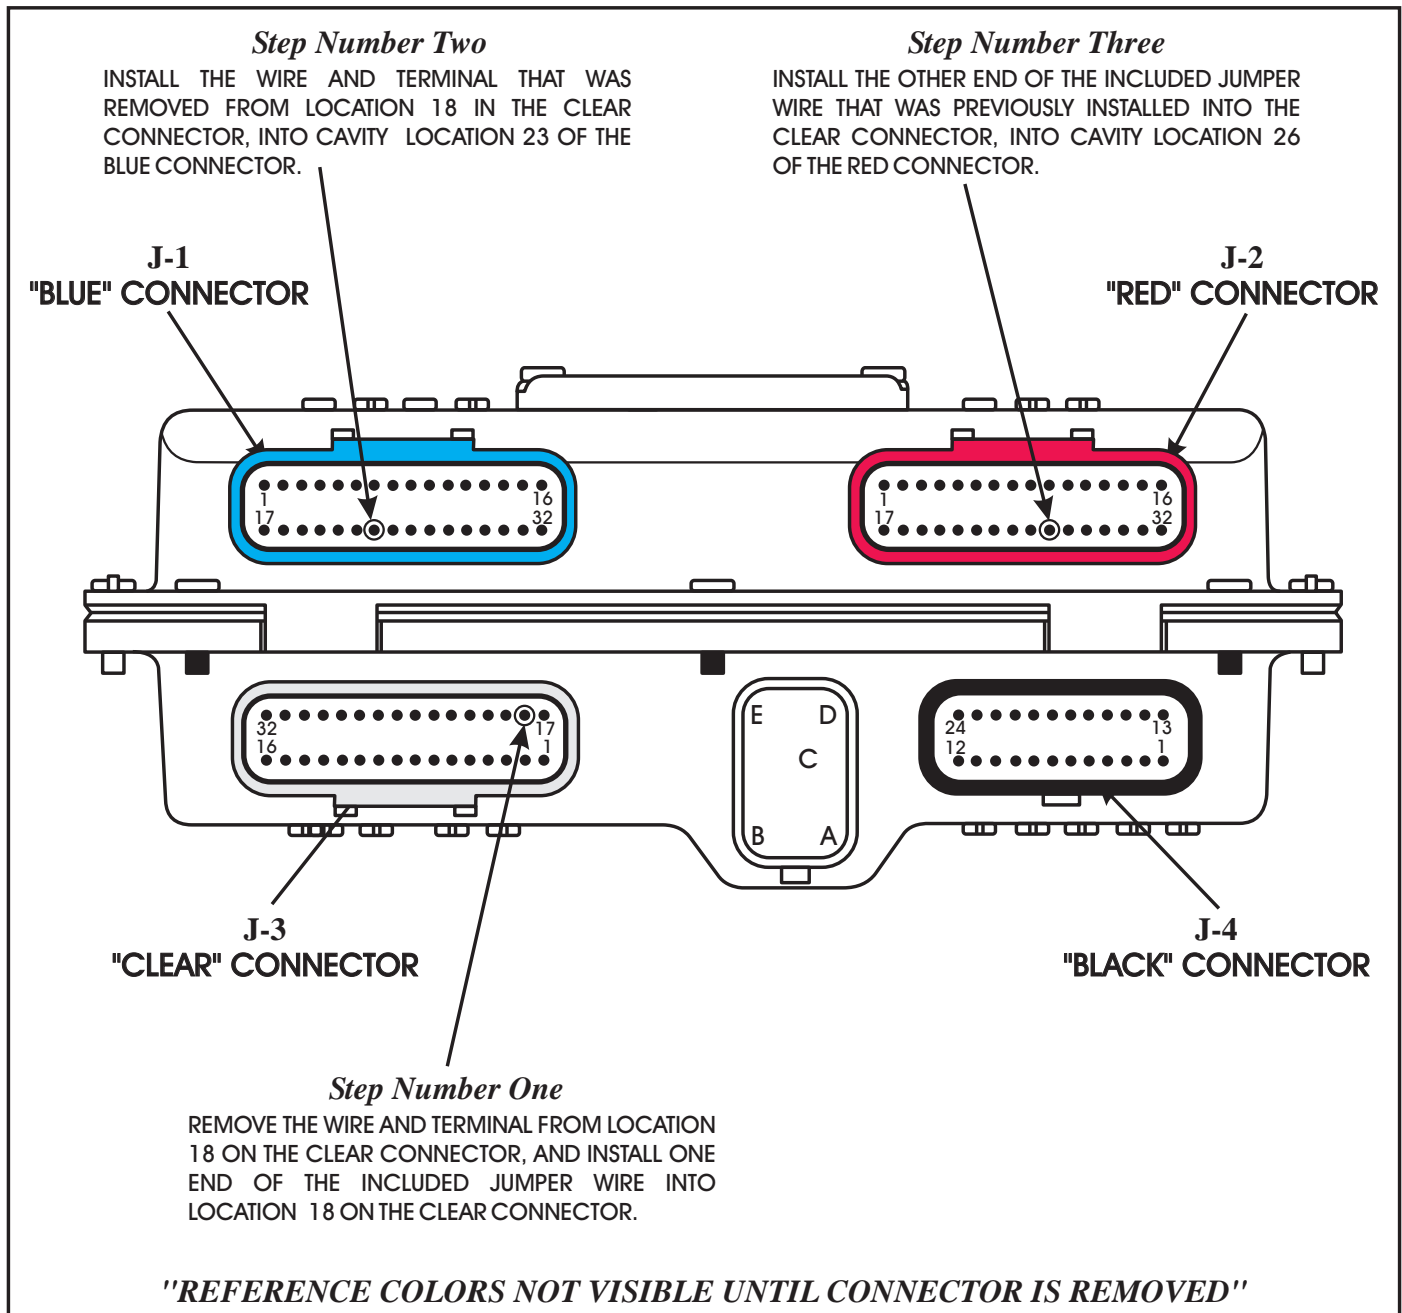

Figure 110
- PCS amps will be erratic in operation. Check the VCM terminals shown in Figure 110 to see if this modification has not been done. **Remember, this is for 1996 gas powered trucks and vans only.** If the modification is required, the repair kit part number is 12167310.